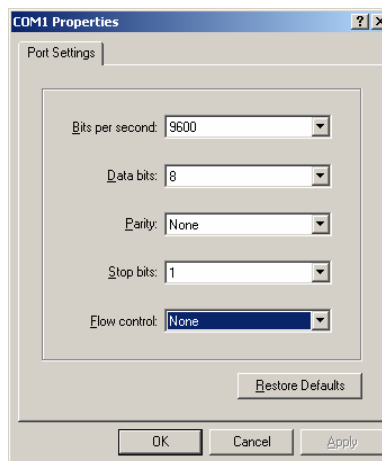

Figure 9. Port Settings
**Step 4.** Make sure the Switch serial port parameters have been set as per the factory default settings (Figure 9). Click *OK* to configure the Switch.